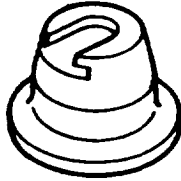

FIGURE 3-22. Lower Spring Seat
- k. Check top surface of lower spring seat (25, FIGURE 3-8) for damage, refer to FIGURE 3-22. If damaged, replace seat.